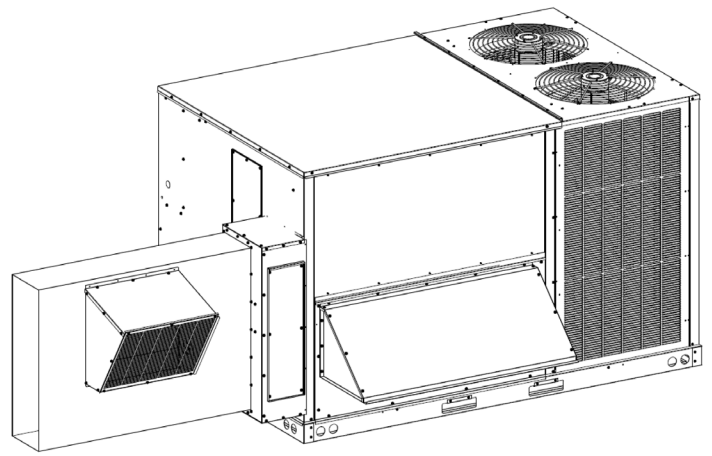

FIGURE 9 - BAROMETRIC RELIEF HOOD
9. Fasten the fully assembled barometric relief hood over the hole in the return duct using provided screws (see Figure 9).